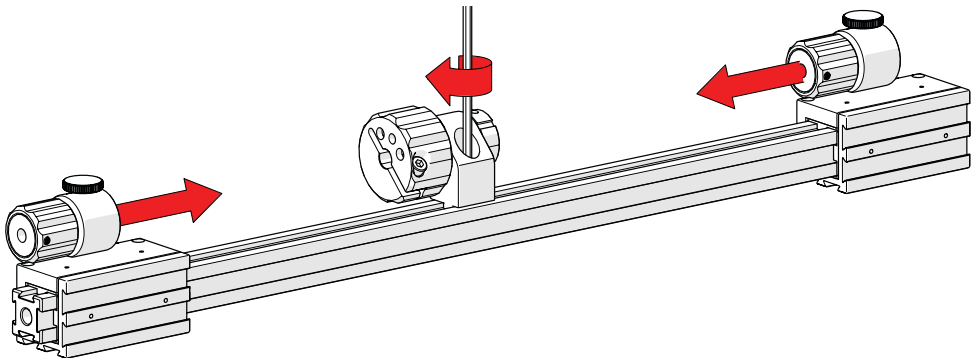

Fig. 132 - Attach slide assemblies and tighten lock screw
3. Tighten the lock screw on the main knob bracket (*Fig. 132*). Ease the two sliders onto either end of the frame bar and push the sliders to the desired position on the frame bar (*Fig. 132*). The slider's friction fit require an appropriate level of force to position the sliders.